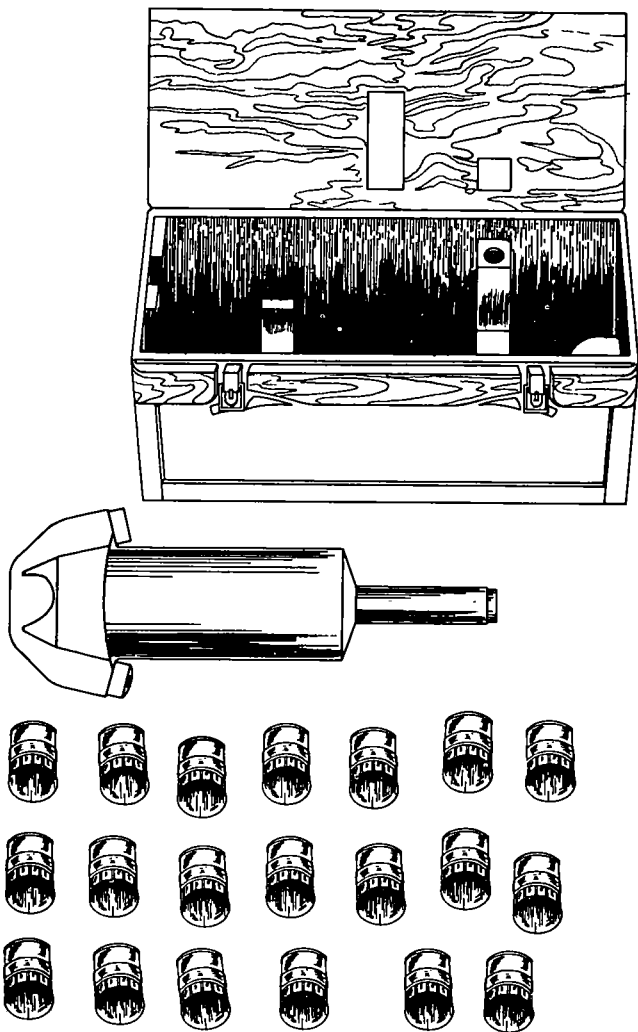

Figure 97. Rocket-propelled bangalore torpedo.
- (1) *Uses.* The bangalore torpedo is used primarily to clear a path through barbed wire entanglements. Used in this way it is pushed into position under the wire and detonated. The torpedo will clear a path from 3 to 5 meters wide through a wire entanglement. It can also be used to clear a path through a minefield and will explode antipersonnel and most antitank mines in close proximity. Since the cleared path is very narrow, some mines may be left in a sensitive state, demanding extreme care in any further mine clearing operations along the path.
- (2) *Detonation.* The special blasting cap (electric or nonelectric) and detonating cord will detonate the bangalore torpedo. In tactical uses of the torpedo, the recommended firing methods are—using a nonelectric cap and time fuze; tying detonating cord with a clove hitch and two extra turns around the torpedo; or using a pull type firing device with a nonelectric blasting cap attached.
h. Rocket Propelled Bangalore Torpedo. This set (fig. 97) consists of 20 sections of bangalore torpedo which may be fitted together to make a 100-foot train. A kit contains the rocket motors, tail assemblies, and couplings for 20 sections. The rocket motor is fitted to the front of the train to provide propulsion. Detonation is effected by a tail assembly which is fitted to the rear end of the train and contains a pull fuze, a nonelectric blasting cap, and a reel of cable 400 feet long. The torpedo is assembled and pulled within range of the target on which it is to be used. The reel of cable is shortened to the length of propulsion desired before detonation and the free end is anchored firmly. The rocket motor is fired electrically and the train travels until the cable becomes taut and trips the pull fuze which detonates the assembly. The rocket motor system offers less exposure of personnel to enemy observation and fire. For further information on the use of the bangalore torpedo, see TM 5-220.